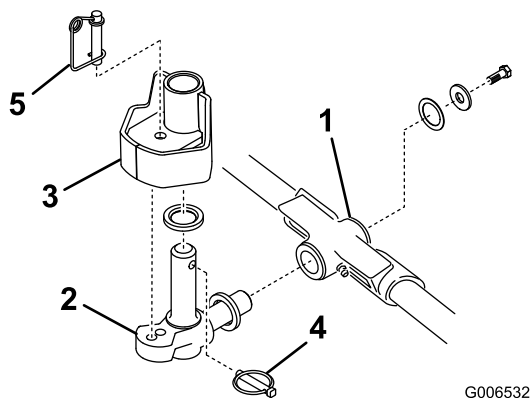

Figure 17
1. Insert a thrust washer onto horizontal shaft of pivot knuckle as shown in Figure 17.
2. Insert the horizontal shaft of the pivot knuckle into the mounting tube of the carrier frame (Figure 17).
3. Secure pivot knuckle to carrier frame with a thrust washer, flat washer and a flange head capscrew (Figure 17).
4. Insert a thrust washer onto vertical shaft of pivot knuckle (Figure 17).
5. If removed, insert the vertical shaft of the pivot knuckle into lift arm pivot hub (Figure 17). Guide the pivot knuckle in place between the two rubber
6. Insert the lynch pin into the cross hole on the pivot knuckle shaft (Figure 17).
Note: If fixed cutting unit position is required, insert steering locking pin into pivot knuckle mounting hole (Figure 17).
11. Hook spring wire around bottom of steering locking pin (Figure 17).